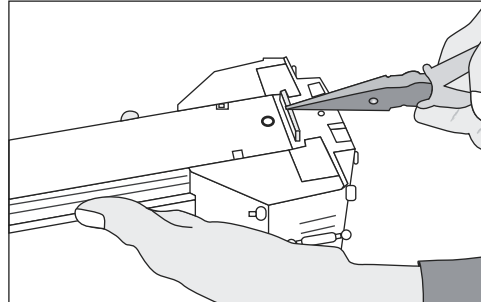

Figure 12
3. Insert needle nose pliers or screwdriver to clear jam. (See Figure 12)